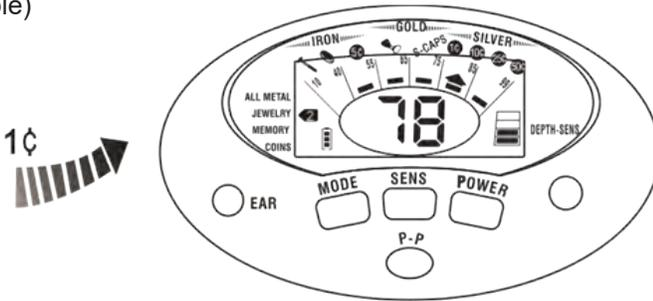

Fig.11
- When sweeping the other three samples, the response of the detector is the same with the ALL METAL mode. (See Fig.11, take 1 ¢ zinc coin as an example)